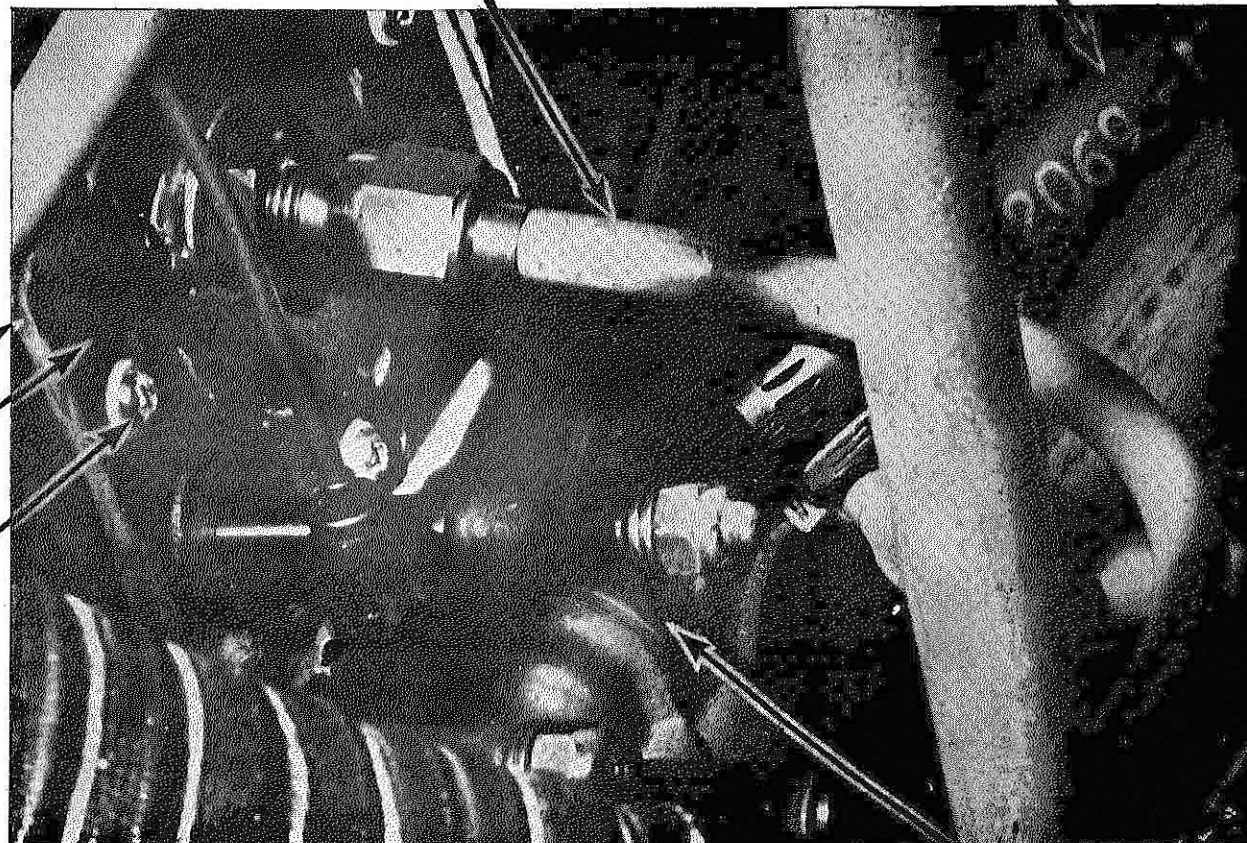

FIGURE 4
- d. Apply PRC 1902 primer and PRC 1955 sealant to firewall skin outer faying surfaces around attaching holes, and install S.B. A-19-9 plate attached with eight (8) each AN515-8R8 screws, AN960-8 washers, and AN365-832 nuts (Refer to Figure 4).
- b. Remove fuel filter and plug two (2) holes on firewall by installing on each hole an AN4-3A bolt, AN960-4 washers (2), and AN365-428 nut.